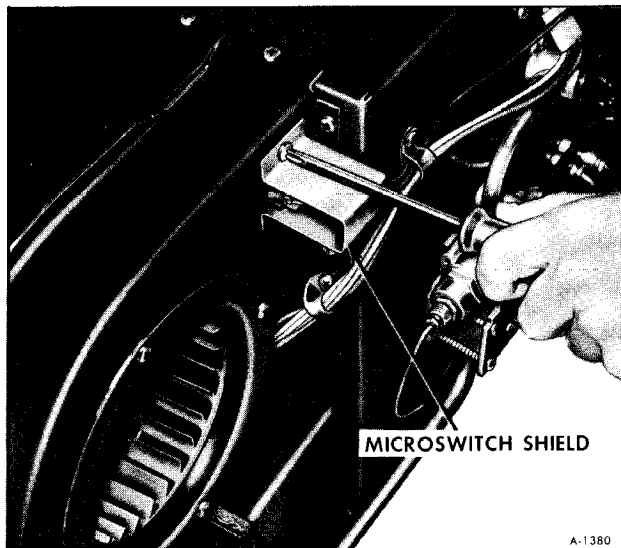

Figure 12—Removing Microswitch Shield
2. Remove microswitch shield (figure 12).
3. Install microswitch shield (figure 12).